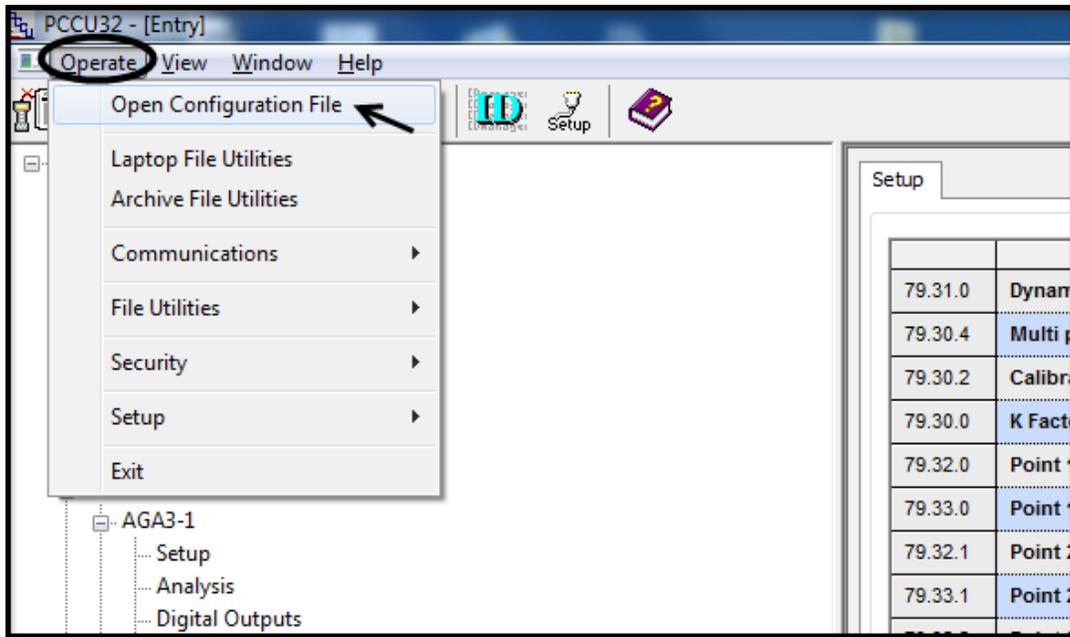

Figure 12: Opening Configuration file using PCCU
- To view the screen shots using PCCU, click on **Operate**, and choose *Open Configuration File* from the dropdown menu (Figure 12).